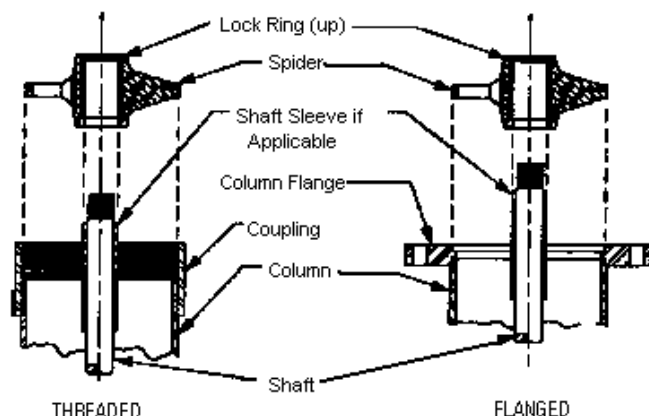

Figure A5.3.9
- 9.a If there is more than one section of threaded column, a centering spider may be used. Slip the spider over the lineshaft with lock ring on top. Screw the centering spider into the column coupling until it butts against the column pipe. See Figure A5.3.9 (THREADED).
- 9.b If column is flanged, clean flange and the O.D. of the spider. Slip the spider over the lineshaft with lock ring on top and seat into spider recess. See Figure A5.3.9 (FLANGED).